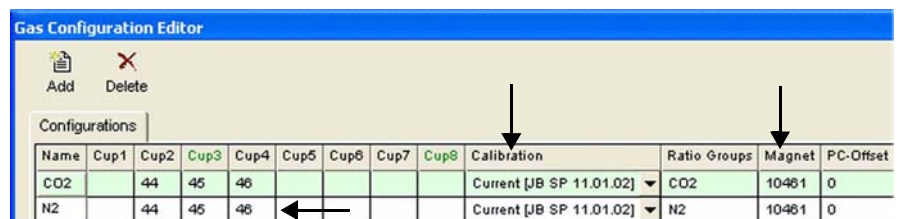

Figure 4-2. Creating new gas configuration
The new gas configuration N2 appears in the list as a row of its own. See Figure 4-2.
10. In the **Calibration** column of Figure 4-2 select your current calibration file.
Note Figure 4-2 shows a common cup configuration as used in most Delta mass spectrometers, that is universal triple collector. If you have a special cup configuration, the respective masses will be collected in other cups! ▲
11. In Figure 4-2 type in the correct masses (28, 29, 30 replace for example 44, 45 and 46) to the appropriate cups specific for your IRMS.